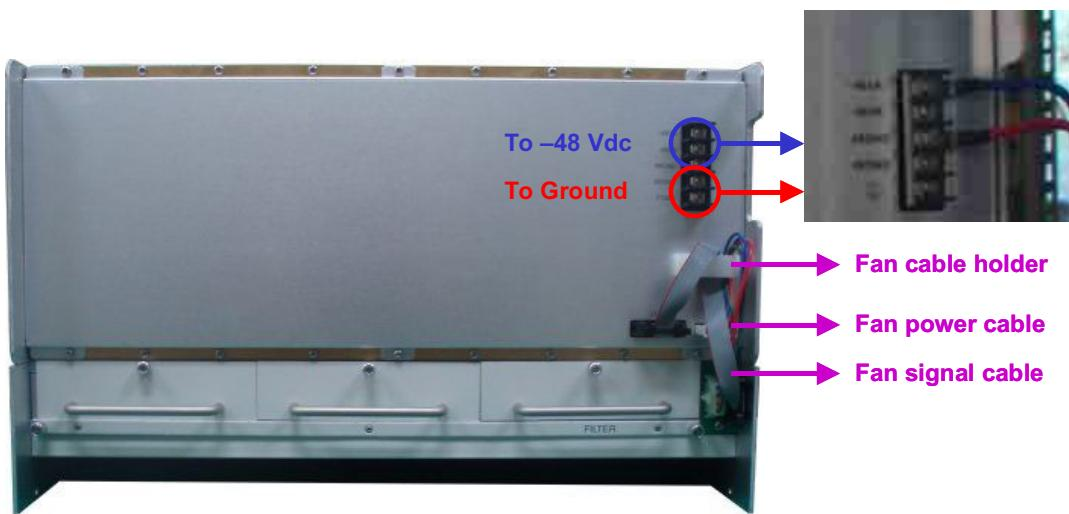

Fig. 3-1 OLT -48 Vdc connection and OLT shelf /
- Provide the power supply that meets the requirement described in Chapter 2. Connect -48 Vdc power cables to the screws of OLT shelf backside as shown in Fig. 3-1.
- For connection of OLT shelf with Fan shelf, use ribbon cable for fan alarm signal and power cable for power supply to fan that are provided in the shipping box. Put fan signal cable and fan power cable through the cable holder as shown in Fig. 3-1. This holder prevents potential damage to fan signal cable when the right most fan unit is ejected.
that are shipped with OLT together (See the connection example in Fig. 3-1).